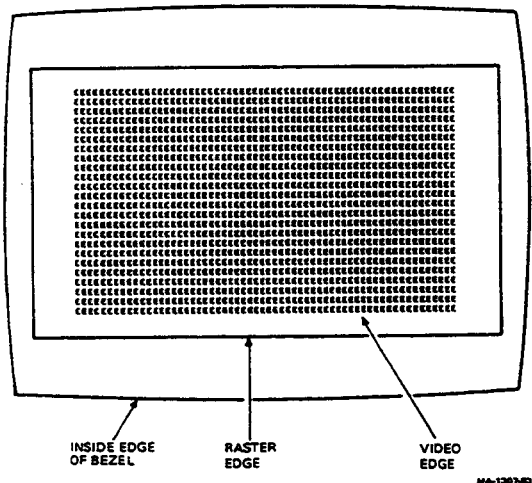

Figure 4-1 Screen of E's Alignment Pattern
- Display alignment pattern (See Figure 4-1.)